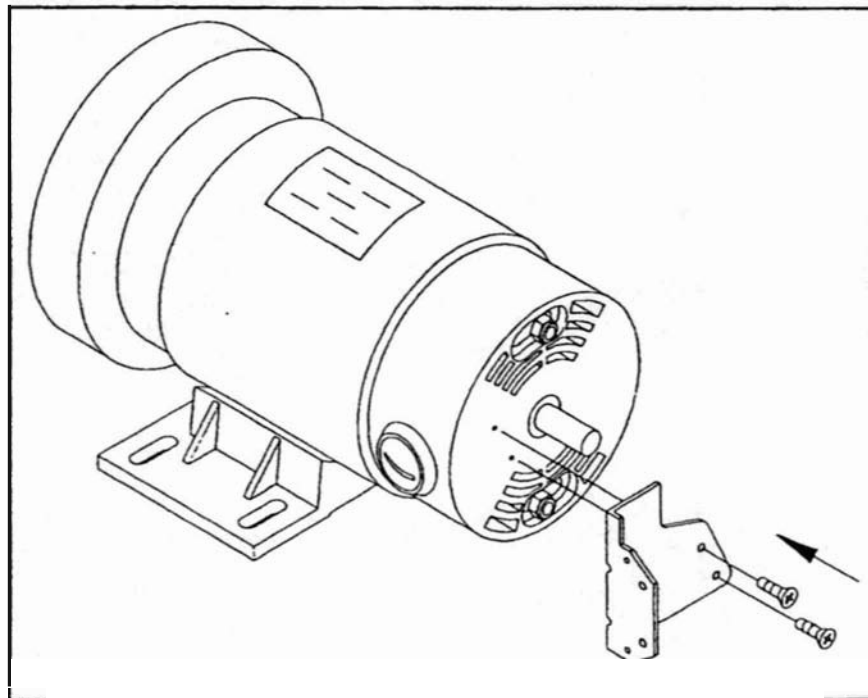

Fig.2
3. Screw the bracket on the rear end of the motor with two PH screws.(see Fig.2)